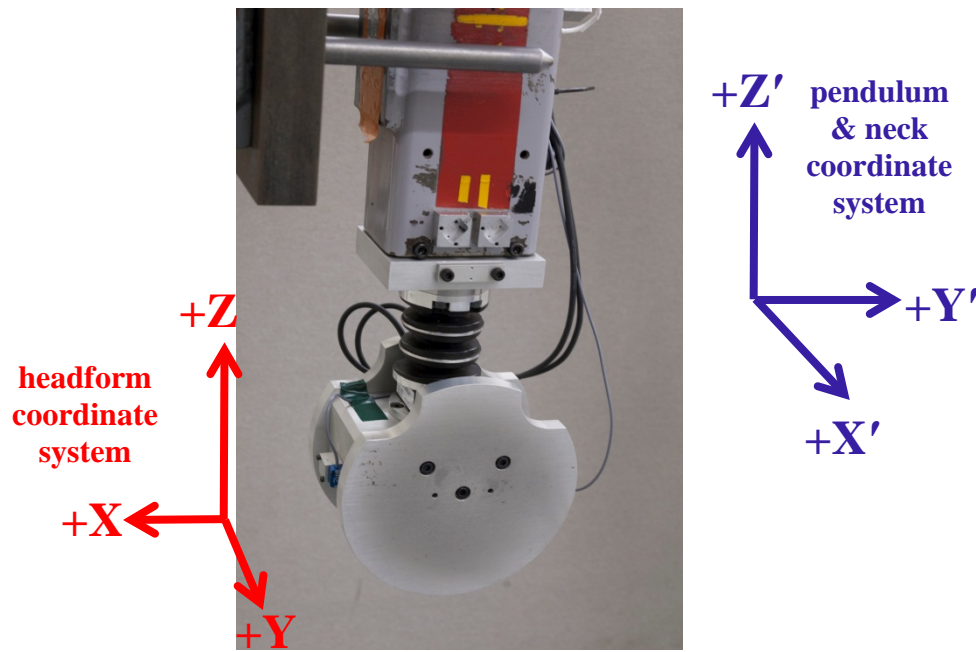

Figure 31. Attach headform to upper neck load cell for left lateral flexion tests
- Attach the headform and upper neck load cell to the neck with four M5 x 10 SHCS (Figure 31). The load cell wiring should protrude from the right side of the headform when facing the impact surface.